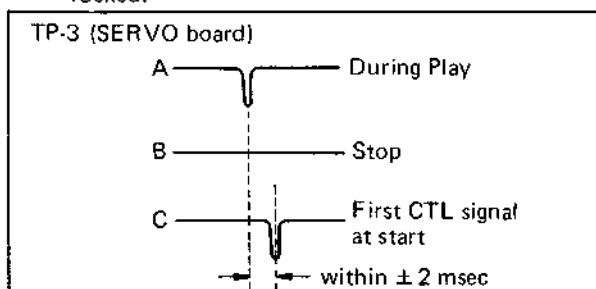

Fig. 5-42 Start timing
- Observe the CTL signal timing when the servo is fully locked. When the PAUSE key is pressed, then released (pressed again), so that the position of the first CTL signal becomes the same (within ± 2 msec), adjust R10 (START TIMING) of the TIMING PHASE board. See Fig. 5-42.